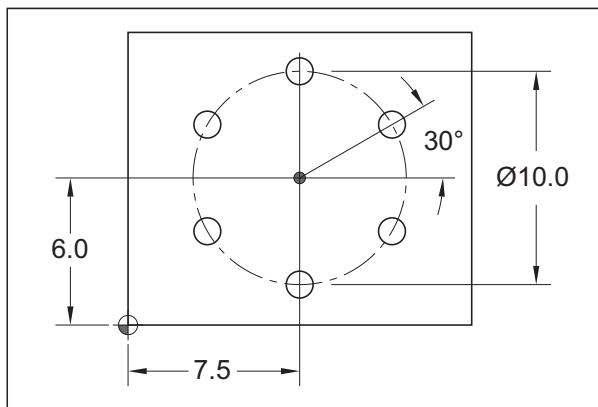

Figure 27-9
*Figure 27-9* is a typical bolt circle drawing. Programming approach for a bolt circle is similar to that of arc pattern.